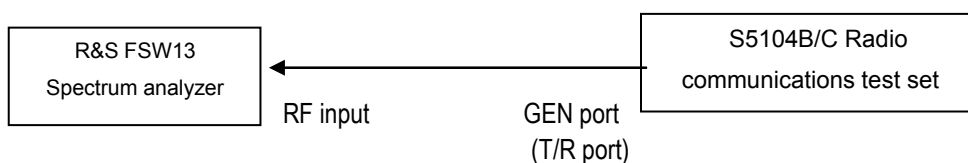

Fig. 6-8 Block diagram for RF signal generation power characteristics test
1) Test the RF signal generation power of the GEN port. As shown in Fig. 6-8, connect the GEN port of S5104B/C with the RF input port of the spectrum analyzer.
1) As shown in Fig. 6-8, connect the GEN port of S5104B/C to the RF input port of the spectrum analyzer; set S5104B/C to the RF TX mode with the output frequency of 1 MHz and the amplitude of 0 dBm; set the start frequency of the spectrum analyzer to 1 MHz, and the reference level to 10 dBm;
1) As shown in Fig. 6-8, connect the RF input of the spectrum analyzer to the GEN port of S5104B/C, set S5104B/C to the RF TX mode with the output frequency of 1.05 GHz, the amplitude of -10 dBm, the modulation format of FM, the modulation rate of 20 Hz and the frequency deviation of 5 kHz;
1) As shown in Fig. 6-8, connect the RF input of the spectrum analyzer to the GEN port of S5104B/C, set S5104B/C to the RF signal TX mode with the output frequency of 1.05 GHz, the amplitude of -10 dBm, the modulation format of AM, the modulation rate of 20 Hz and the frequency modulation depth of 30%;
1) As shown in Fig. 6-8, connect the RF input of the spectrum analyzer to the GEN port of S5104B/C, set S5104B/C to the RF TX mode with the output frequency of 1.05 GHz and the amplitude of -10 dBm;